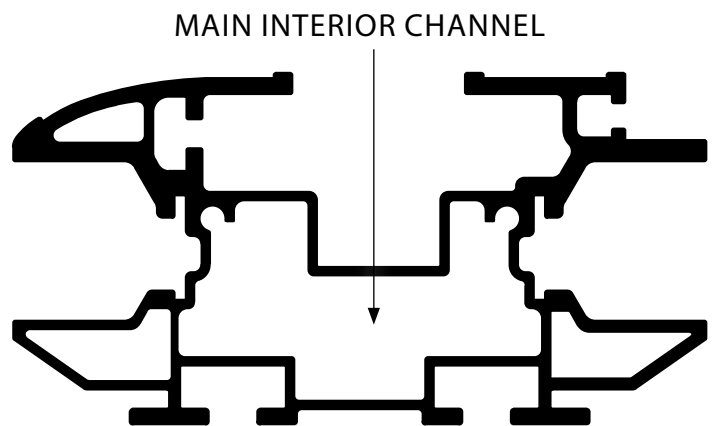

Figure 9-2
5. Route the wire through the main interior channel [Figure 9-2]. **DO NOT re-install the charge strips. This will be done after installing the chassis.**